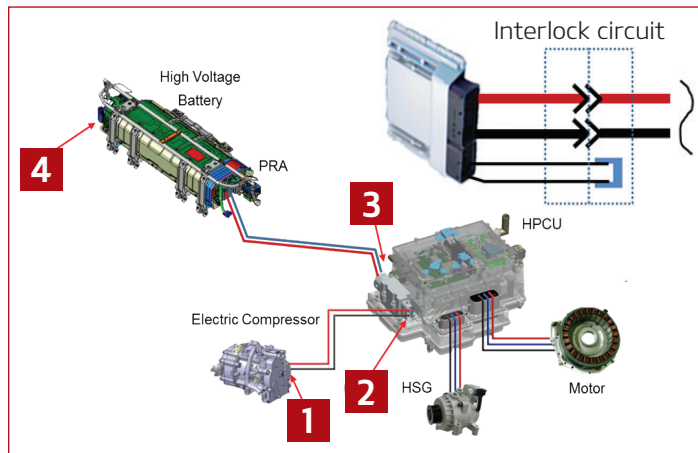

Fig. 1: Kia Niro Interlock Circuit.
Certain High Voltage (HV) connections on Kia Hybrid Electric Vehicles (HEVs) and Electric Vehicles (EVs) include an interlock circuit (See Fig. 1). Think of an interlock circuit as a series-type circuit monitored by a control module.